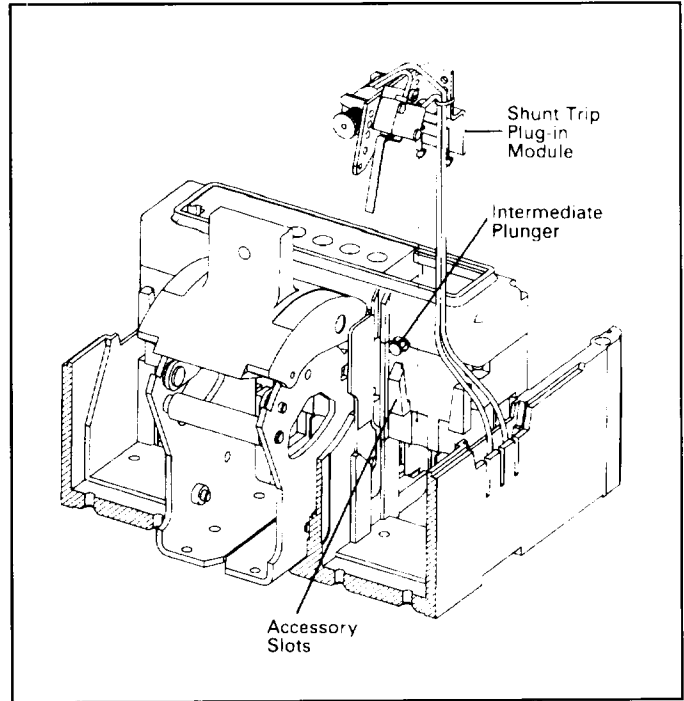

Fig. 2-3 Installing Intermediate Plunger and Shunt Trip
- 2-5. Insert shunt trip as described in the following steps (Fig. 2-3).